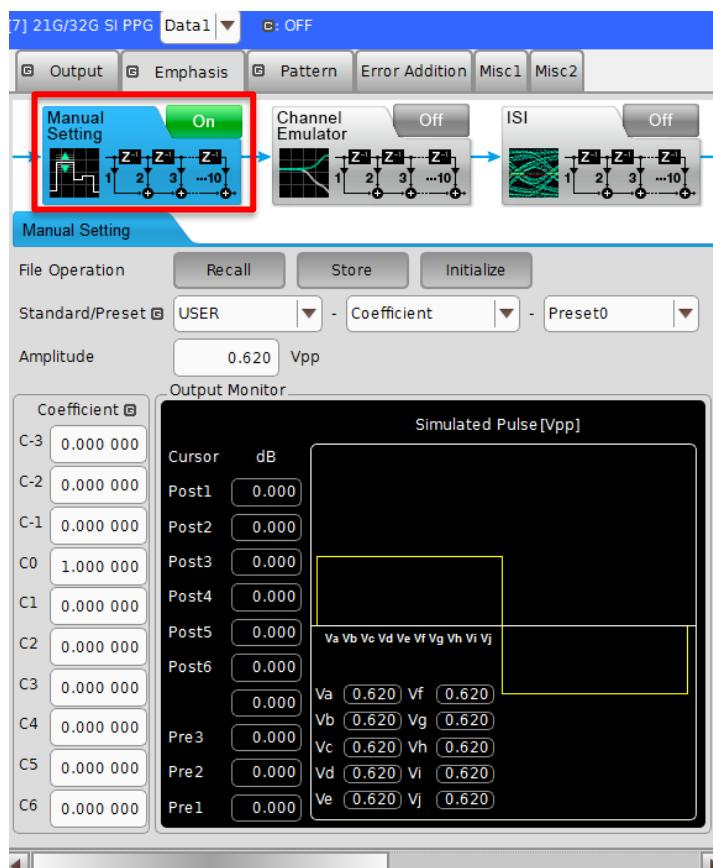

FIGURE 47. PPG EMPHASIS SETTING
- j) Go to PPG → Emphasis tab and turn on “Manual Setting”. See Figure 47.